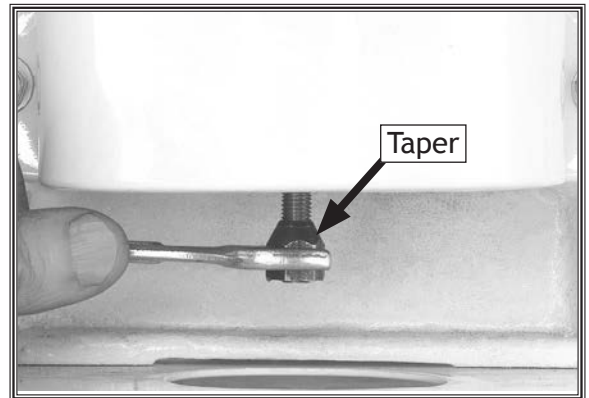

Figure 13. Threading on drawbar nut with the tapered end up.
14. Using a 14mm open-end wrench on the drawbar nut, (**Figure 13**), make sure the drawbar nut is tight, but **DO NOT** over-tighten the drawbar nut.